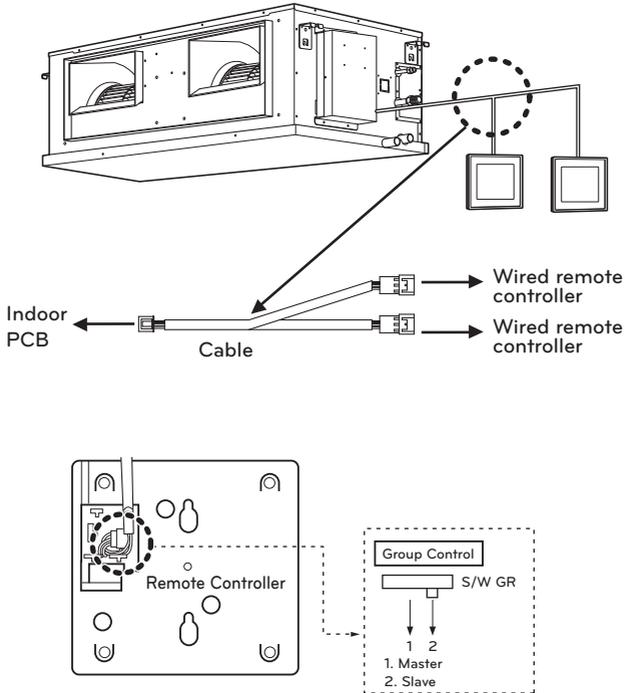

Figure 1
- Set one wired remote controller as master, the others as slave. (Figure 1)